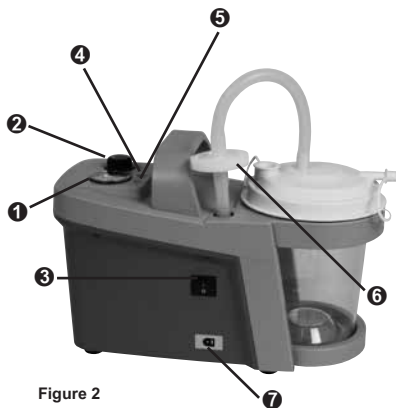
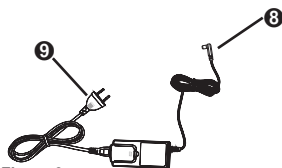
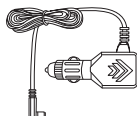
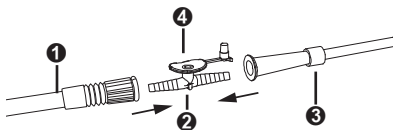

Figure 2
Figure 3
Figure 3a
Figure 5
- Switch the device on with the aid of the ON/OFF button (Figure 2, ❸). If the operating status indicator (Figure 2/4, ❺) lights up in green, the device is ready for operation. If the operating status indicator (Figure 2/4, ❺) lights up in yellow, the rechargeable battery must be charged. (see Section 3.4).
The battery is charged via the 12 V low-voltage connection of the device. While charging is in progress, the battery capacity status indicator (Figure 2/4, ❹) flashes green. As soon as the battery has been fully charged, the battery capacity status indicator (Figure 2/4, ❹) lights in green. The device can be charged or operated with either the power supply (Figure 3) or the car connection cable (Figure 3a).
Connect the low voltage cable of the power supply (Figure 3, ❹) to the low voltage connection of the device (Figure 2, ❷). Plug the mains plug of the power supply (Figure 3, ❹) into the wall socket.
Connect the low voltage connection of the device (Figure 2, ❷) to the cigarette lighter socket of the car, using the special car cable (Figure 3a).
- Connect the suction catheter (Figure 5, ☉) to the suction tube (Figure 5, ☁) with the aid of the Fingertip (Figure 5, ☊).
- Set your desired vacuum by keeping the auxiliary air opening of the Fingertip (Figure 5, ☊) closed and allowing the vacuum to build up. Then turn up the vacuum control (Figure 2, ☊) until the vacuum gauge indicates the desired vacuum.
- Choose a suction catheter (Figure 5, ☉) with the correct size or a suctioning set, which can be purchased via specialist dealers.
- Control the suctioning process by means of the auxiliary air opening (Figure 5, ☉) on the Fingertip.